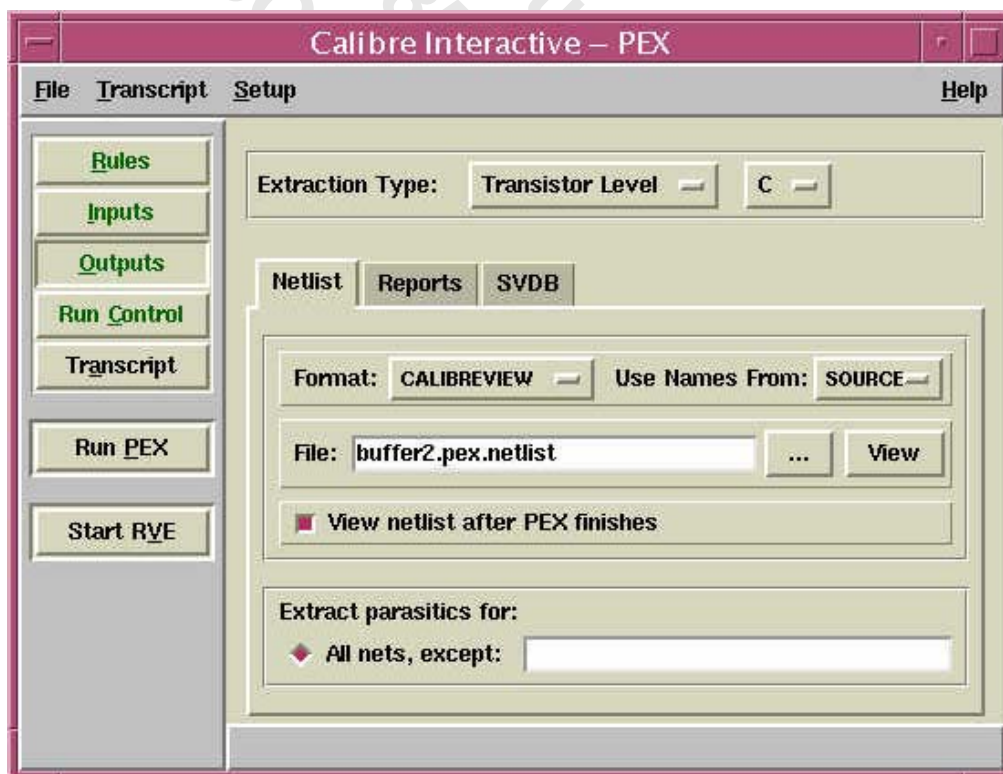

FIG. 37 Calibre interactive RCX window
3. Select the "Extraction Type", specify the output format to be "CALIBREVIEW" and "Use Names From" to be "SOURCE" (fig 37).